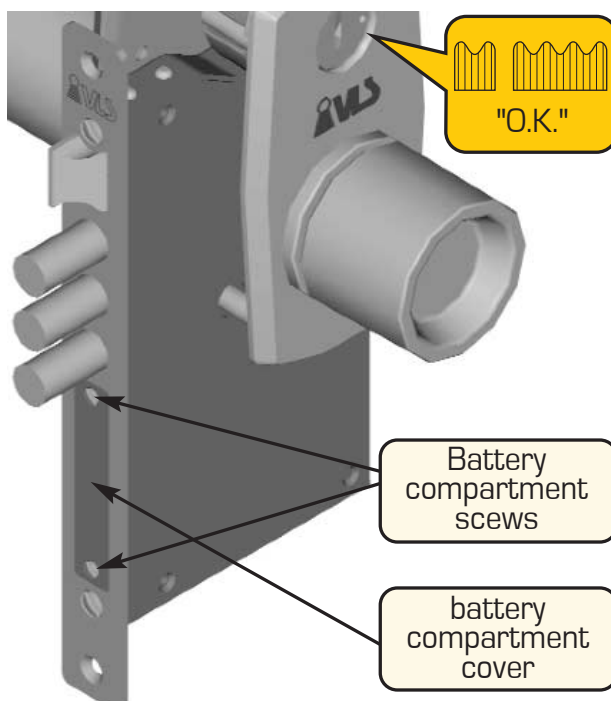

Figure 5 – Installation of Batteries
2. Using a screwdriver, unscrew the two fixing screws from the battery compartment cover on the lock end surface (fig. 5).
3. Holding those two screws, remove the cover and take out the battery compartment from the lock body (fig. 5).